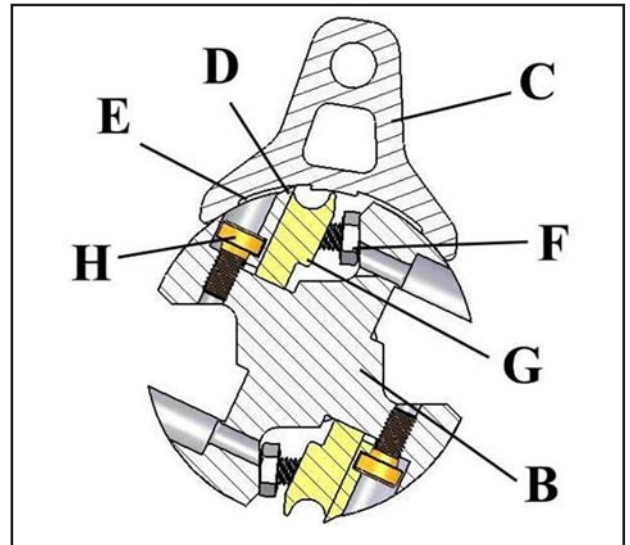
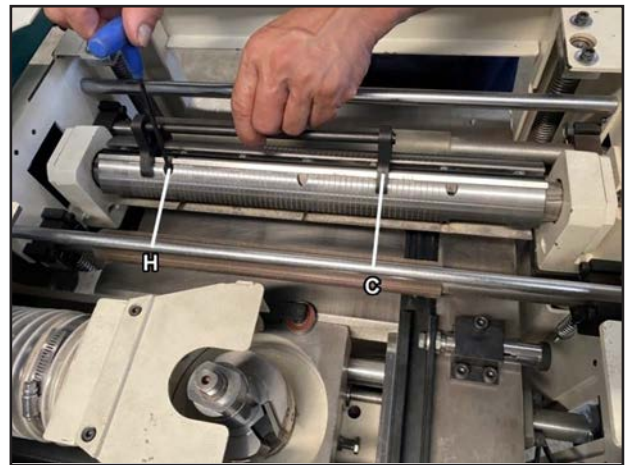

**Figure 21.** Knife installation components.
**Figure 22.** Knife installation components.
7. Carefully position the knife setting gauge (C) (see **Figure 21**), so the gauge is on the cutterhead radius.
8. Tighten the gib bolts (F) just enough so the gib exerts a little pressure on the cutterhead (see **Figure 21**).
9. Turn the jack screws (H) (see **Figure 22**), located between the knife groove and the cutterhead slot (see **Figure 22**), to raise the knife until it just contacts the gauge's 0.787" depth groove (E) (see **Figure 21**). Secure the setting by turning the gib bolts (F) counterclockwise. Install the remaining knife in the same manner.